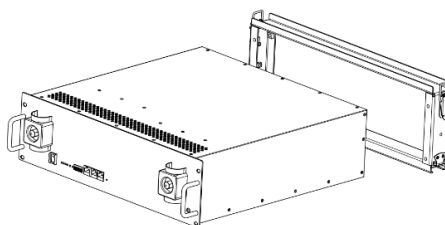

Figure 3-4
1. Place the battery and a bracket as shown in the figure3-4, and insert the battery into the bracket.